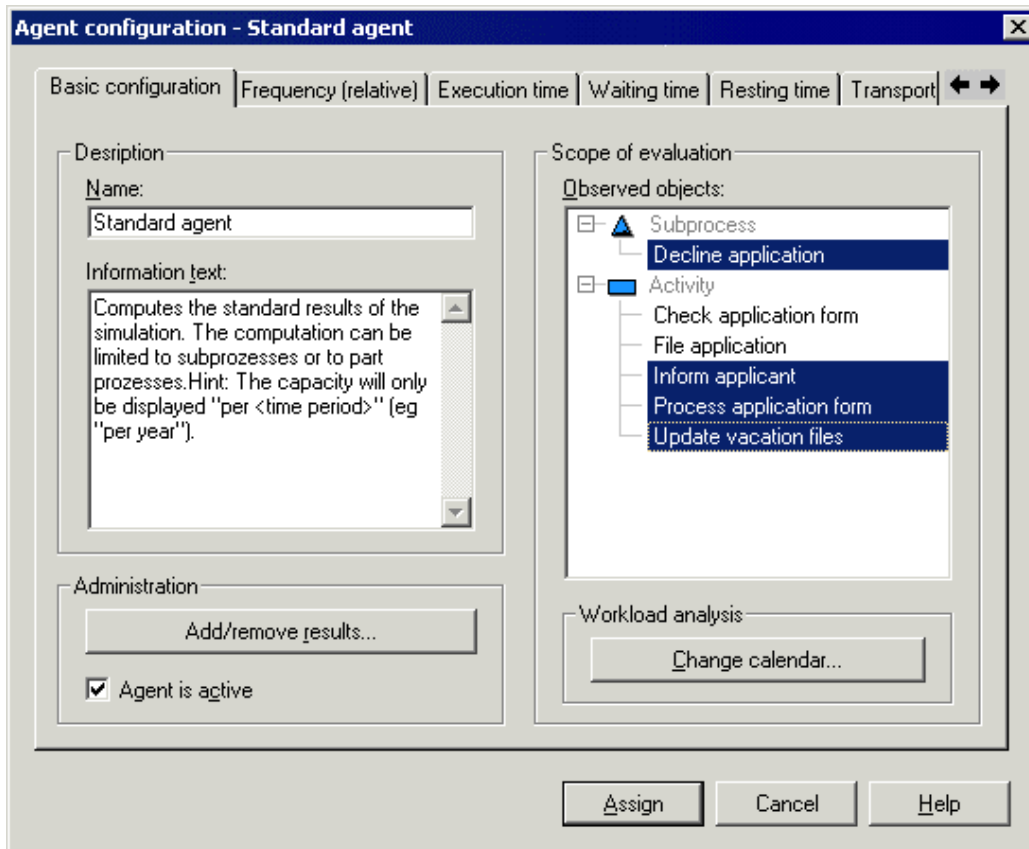

Figure 332: Configuring agents (example)
3. Click on the "**New...**" button. The window "Agent configuration - *<Name of Agent>*" (see fig. 332, p. 406), in which you can assign tasks to the new agent, will now be displayed.
| "Settings" | opens the window "Agent configuration - <Name of Agent> " (see fig. 332, p. 406). You may then change some of the existing settings or add new tasks for the agent to carry out. |
An agent's behaviour is designed in the window "Agent Configuration - <Agent Name>" (see fig. 332, p. 406). The window contains a tab for "**Basic configuration**" (see chap. 4.8.3.1, p. 406) and can contain tabs for the Evaluation Results (see chap. 4.8.4, p. 409) the agent is to calculate.
It is possible to specify which modelling objects the agent should take into account when calculating results and for which periods of time the agent is to calculate the results in the "Basic configuration" (see fig. 332, p. 406) tab.
Define the results the agent is to animate in the "Animation" (see chap. 4.8.5.2, p. 421) tab in the "Agent configuration" (see fig. 332, p. 406) window.
Within the "Number of changes in responsibility" (see chap. 4.8.5.3, p. 422) tab, within the window "Agent configuration" (see fig. 332, p. 406) you must define whether the changes of responsibility are to be calculated for performers, resources or for other classes of your application library.